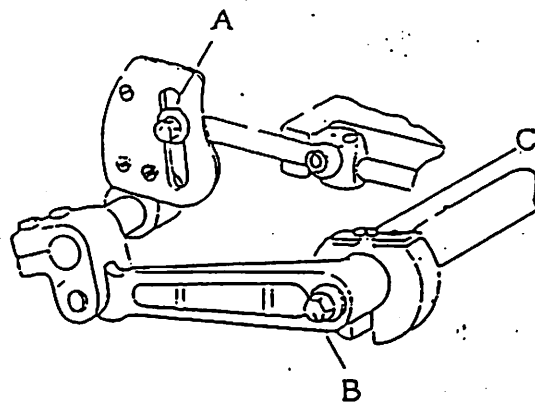

Fig. 5
7. Adjustment of Feed (Refer to Fig. 5.)